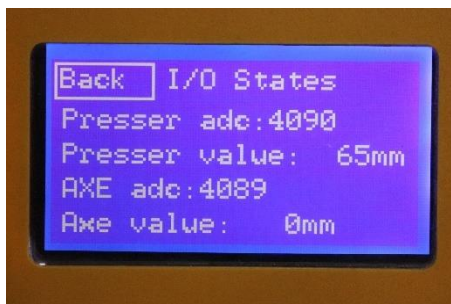

Figure 41 I/O properties
4. Navigate to I/O properties in the menu (Figure 41).